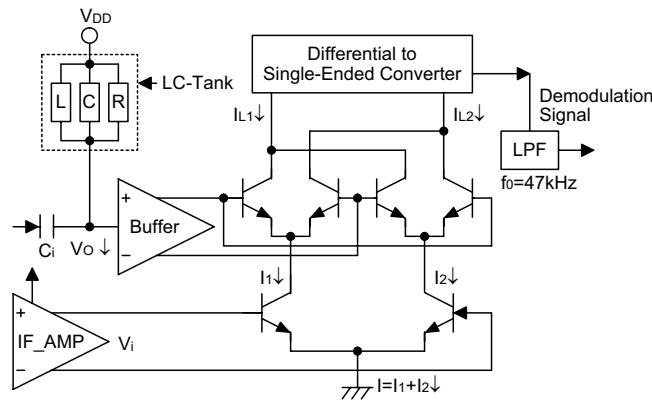

Figure 7 Quadrature detector
- Once the signal leaves the IF section, it must be demodulated so that the baseband signal can be separated from the IF signal. This is accomplished by the quadrature detector. A quadrature detector (Figure 7) uses a 90° phase shifter (C_i), an L/C tuned circuit, and a phase comparator to demodulate FM signals.